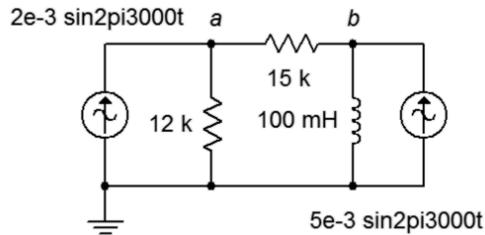

Figure 6.13
25. Given the circuit in Figure 6.13, use nodal analysis to determine  $v_{ab}$ .
26. Use nodal analysis to find the current through the 100 mH inductor in the circuit of Figure 6.13.